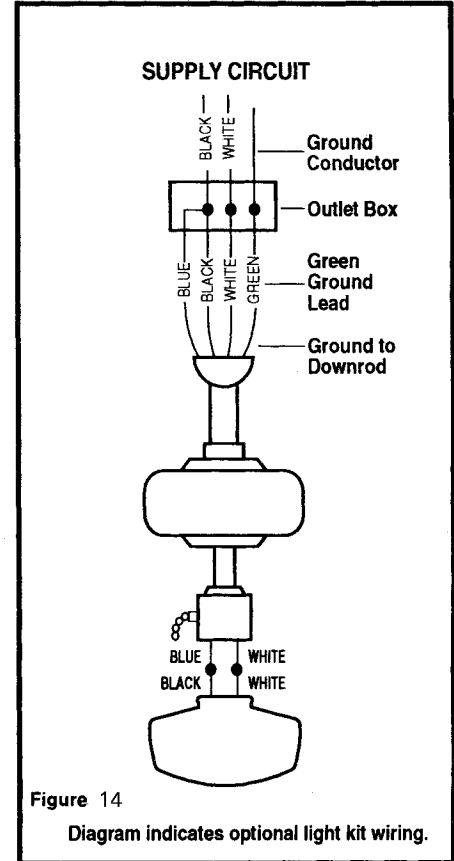

Figure 14
1. Connect the ground conductor of the 120v supply (this may be a bare wire or a wire with green colored insulation) to the green ground lead(s) of the fan (Fig.14). When using standard ceiling mounting, there are two green grounding leads; one from the ceiling mounting bracket and one from the ball/downrod assembly.
2. Connect the fan motor white wire to the supply white (neutral) wire using a wire nut (Fig.14).
3. Connect the fan motor black wire to the supply black (hot) wire using a wire nut (Fig.14).